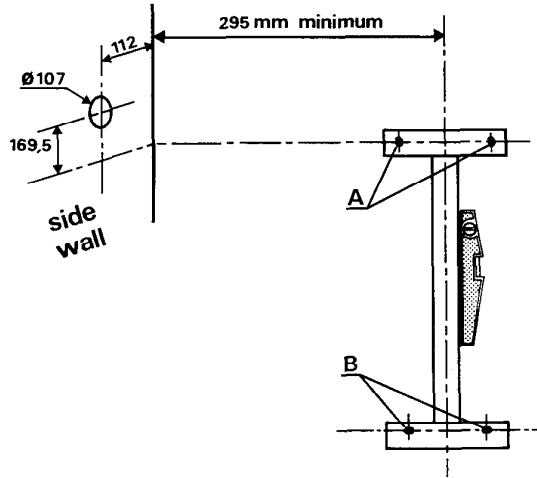

Fig. 20
- Mark vertical centre line for boiler on wall (see fig. 20).
- Using bracket as template mark 4 fixing slots (A) and (B).
- Mark horizontal line through the fixing slots (A) and project to side wall.
- Drill 4 fixing holes (for (A) top of slot) and (for (B) center of slot).